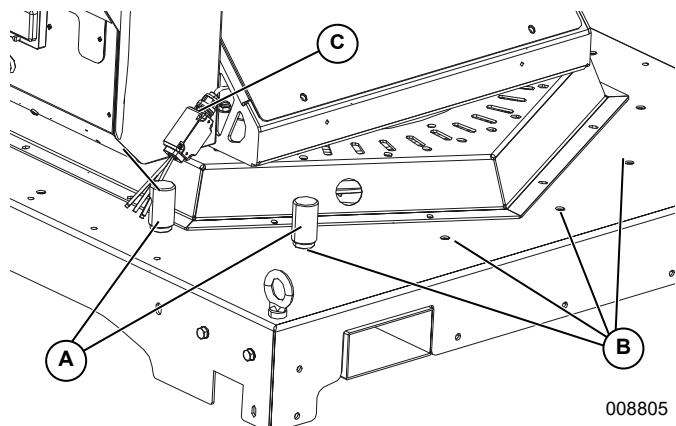

Figure 3-7. Automatic Oscillation
See *Figure 3-7*. When the oscillation system is set to ON, blower rotation is controlled by the placement of limiting pins (A). Oscillation range can be adjusted by moving limiting pins to any hole (B) in the deck. When micro switch (C) contacts a limiting pin the blower reverses direction.